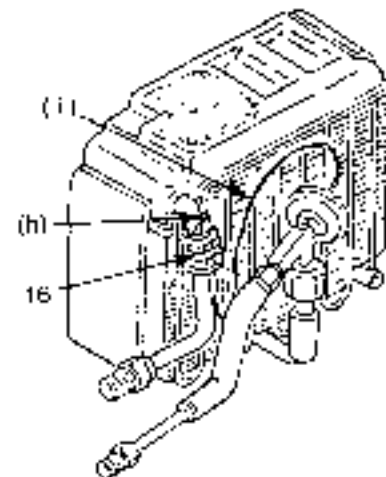

Figure-8
- (1) Install the temperature sensing tube (h) as shown on Figure-8.
- (2) Roll an extra length of the capillary tube (i) to approx. 20.
- (3) The insulation (15) can not be reused, so replace it.
- (4) Apply the insulation carefully so that the temperature sensing tube (h) is completely insulated from outside air.